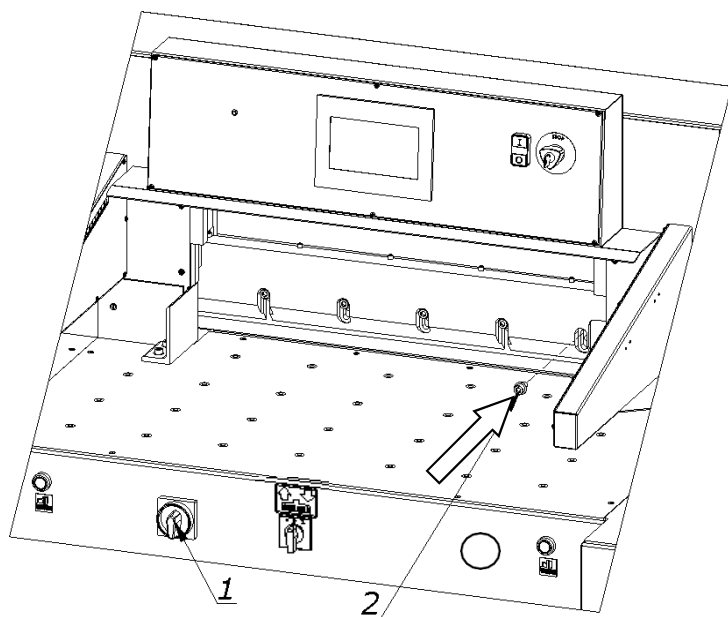

Figure 34.
8.1.2.10. Switch off the power supply of the electrical system by turning the main switch knob (1, fig. 34) to the "0" position.
8.1.2.11. Screw in the bolt (2) lightly (Fig. 34)